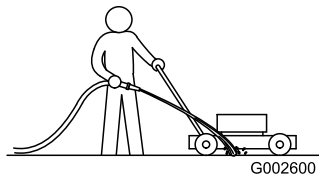

Figure 52
1. With the engine running on a flat paved surface, spray a stream of water in front of the right rear wheel (Figure 52).